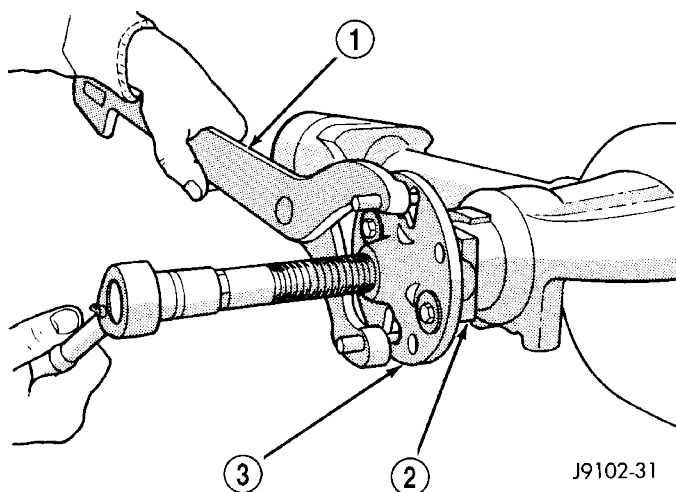

Fig. 37 PINION YOKE REMOVER
(1) With vehicle in neutral, position vehicle on hoist.
(2) Remove brake rotors and calipers.
(3) Remove propeller shaft from the yoke.
(4) Rotate pinion gear three or four times.
(5) Record rotating torque of the pinion gear with an inch pound torque wrench, for installation reference.
(6) Hold pinion yoke with Wrench 6958 and remove pinion nut and washer.
(7) Remove pinion yoke with Remover C-452 and Wrench C-3281 (Fig. 37).